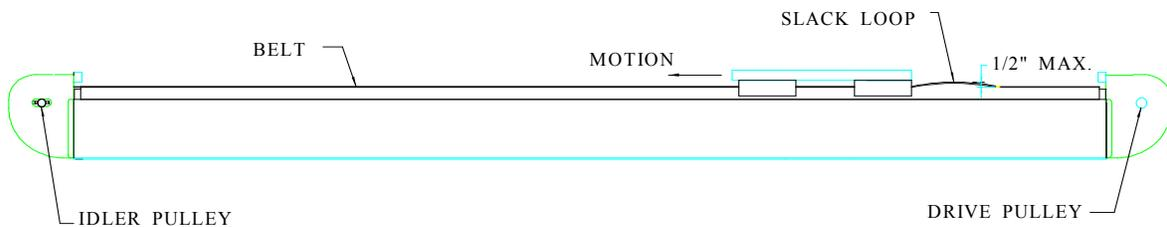

Figure 4.2.8.4
8. Move axis of robot connected to the belt away from the drive pulley and observe the tension in the belt. Reference Figure 4.2.8.4.